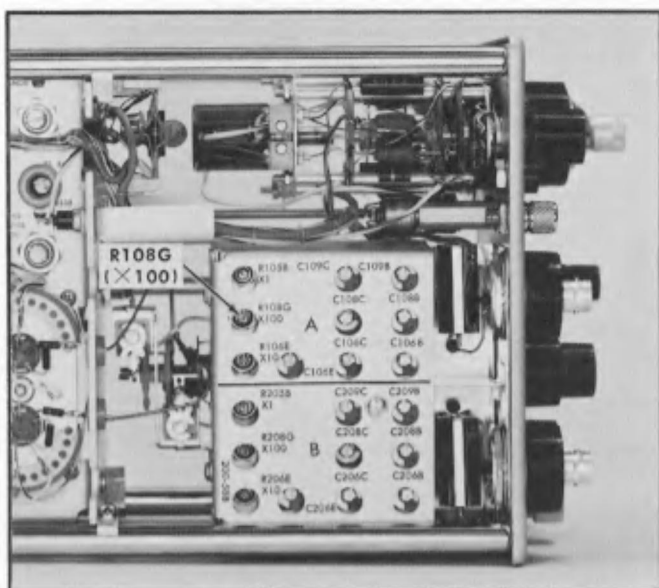

Fig. 5-35. Location of step 27 adjustment.
e. Adjust R108G (see Fig. 5-35) so the trace coincides with graticule center.